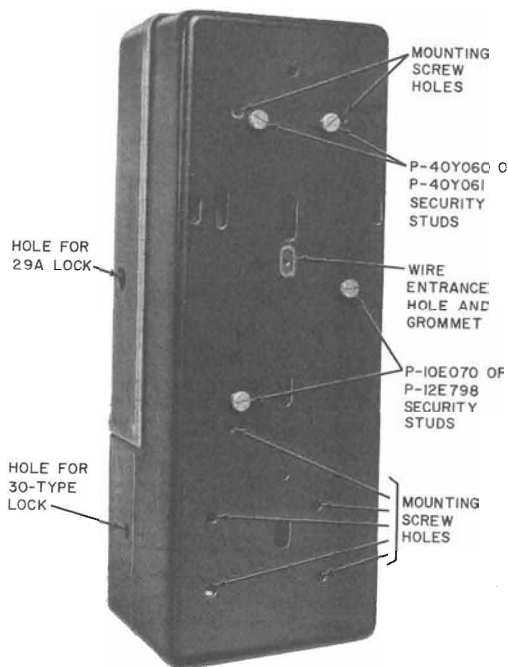

Fig. 3—Location of Mounting Screw Holes and Security Studs in 1C-Type
2.05 Refer to Fig. 3 and 4 and Tables B and C for security stud requirements.